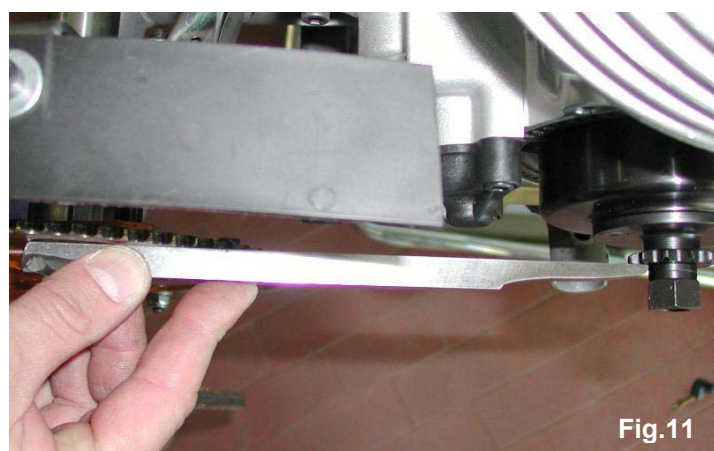

Fig.11
3.5.2 CHECK THE ALIGNMENT OF THE ENGINE SPROCKET AND THE AXLE SPROCKET WITH A STRAIGHT EDGE (SEE FIG. 11).